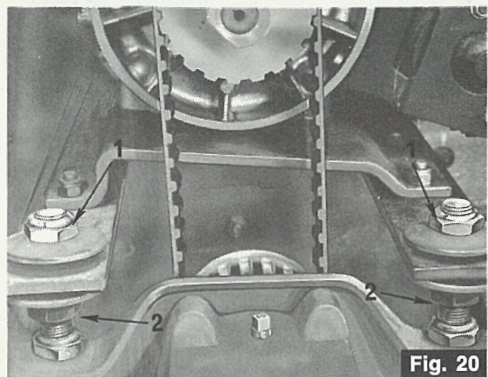

Fig. 20
To decrease belt tension; back-off four locknuts (1) equally and four adjusting nuts (2) until belt is correctly tensioned. Tighten locknuts (1). (See Fig. 20).